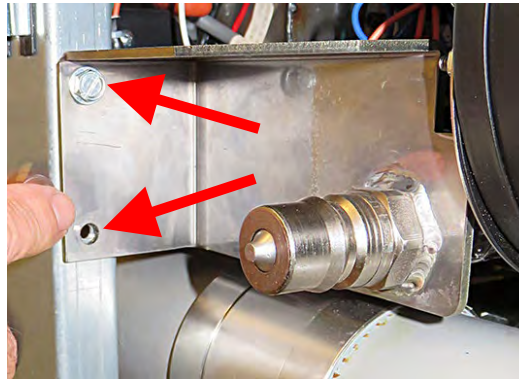

Figure 1
1. If necessary, remove any obstruction that restricts access to the pressure switch or blower, such as the disposal quick disconnect, by removing the two screws, which attach the bracket (see Figure 1).